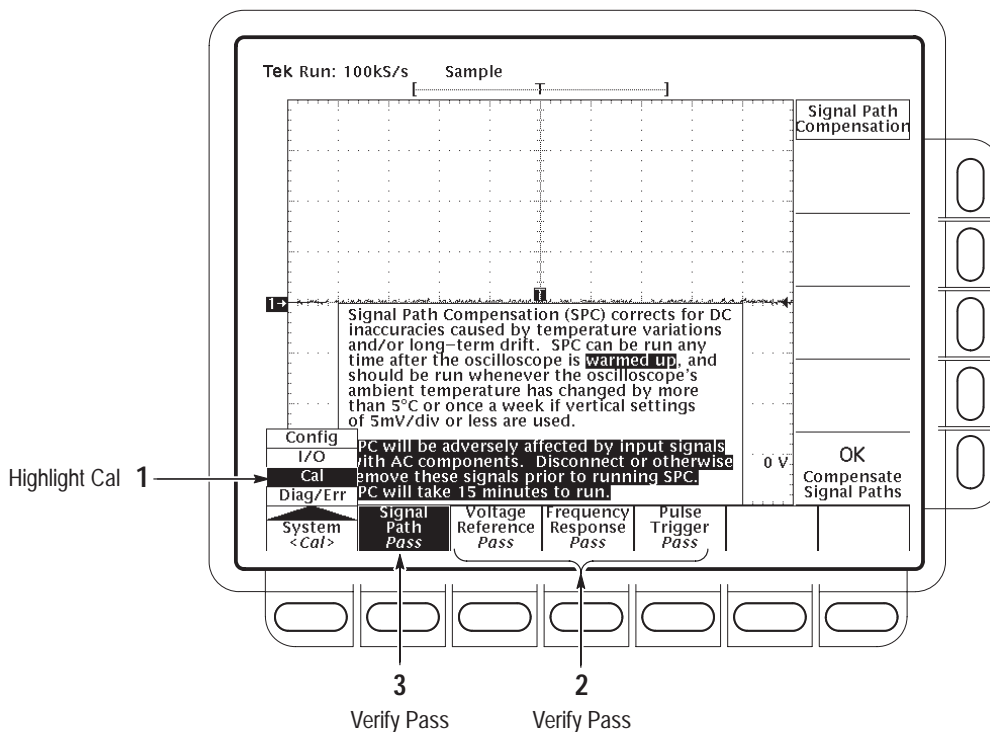

Figure 4–2: Verifying adjustments and signal-path compensation
- Highlight **Cal** in the pop-up menu by repeatedly pressing the main-menu button **System**. See Figure 4–2.
- Verify that the word **Pass** appears in the main menu under the following menu labels: **Voltage Reference**, **Frequency Response**, and **Pulse Trigger**. See Figure 4–2.
- h. *Confirm signal-path compensation returns passed status:* Verify that the word **Pass** appears under **Signal Path** in the main menu. See Figure 4–2.